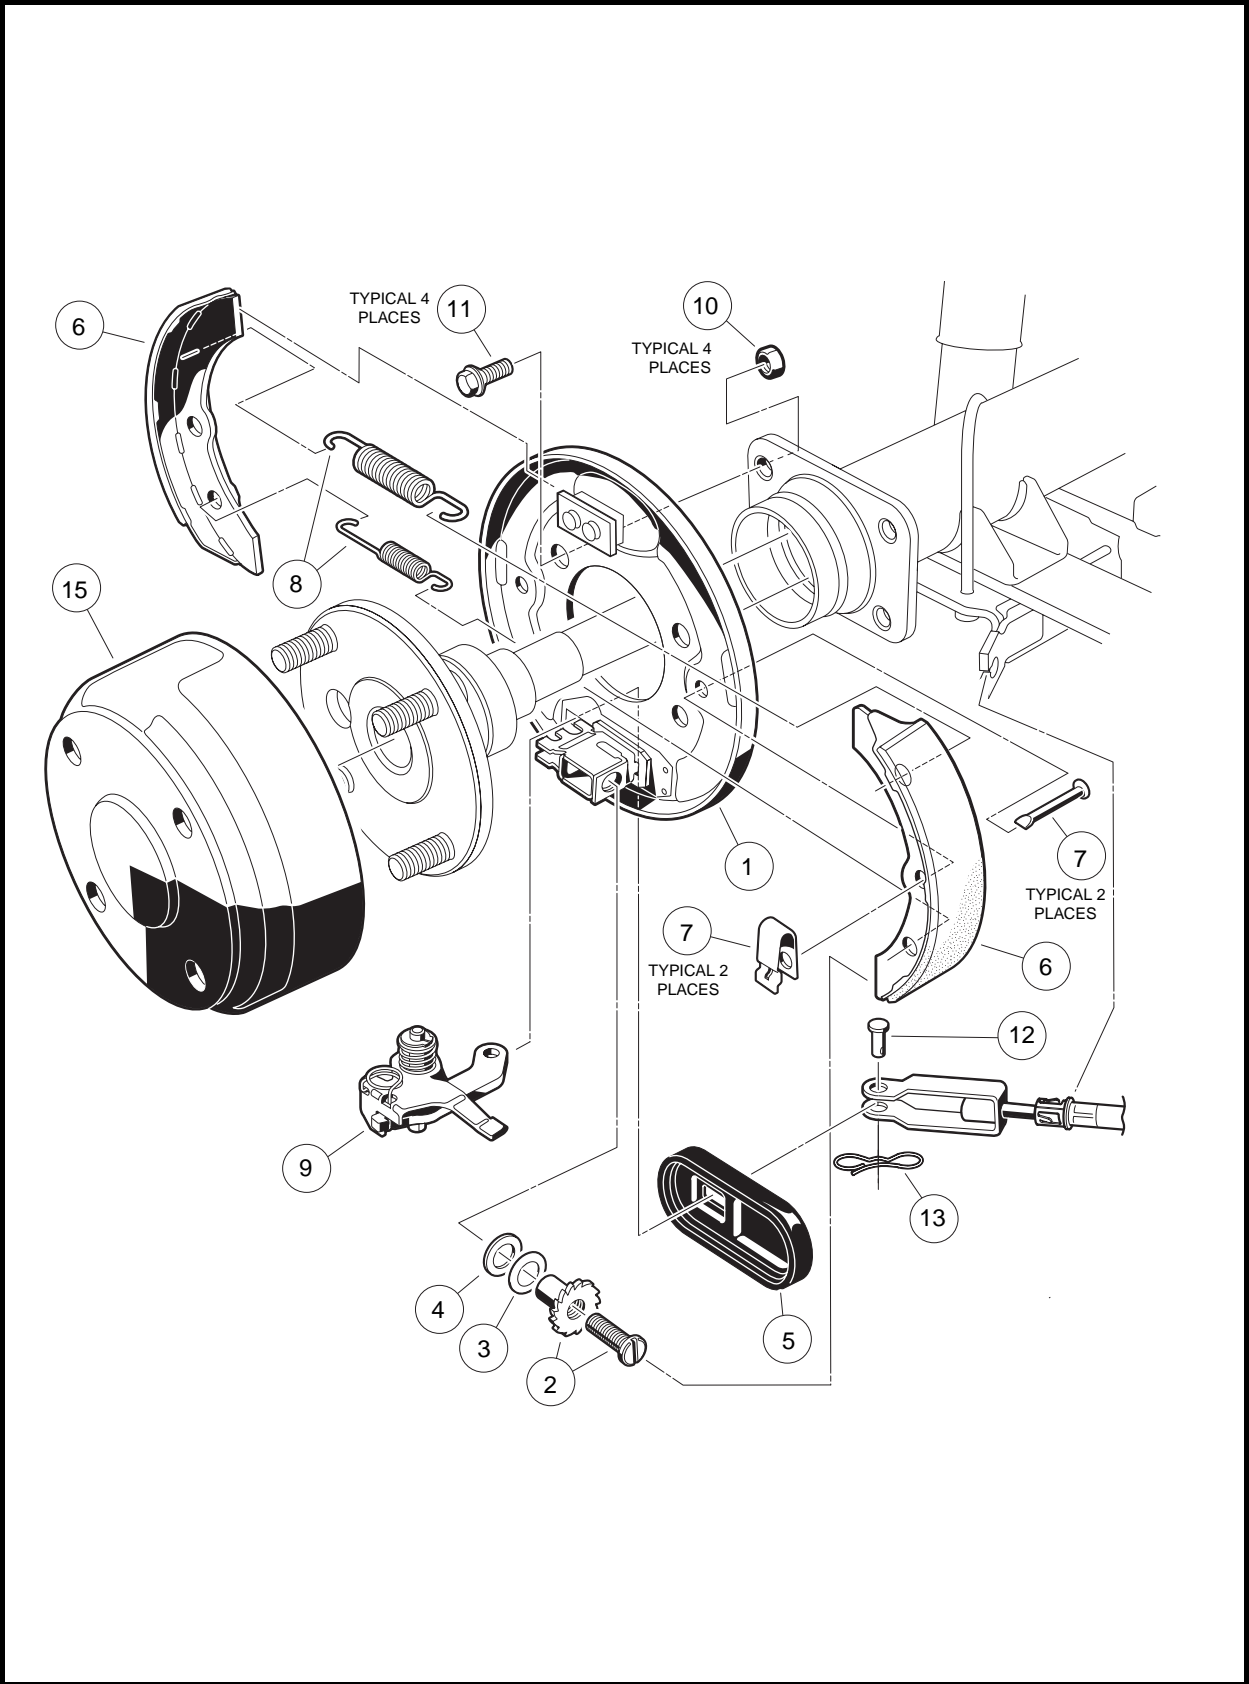

Figure 6-4 Self-adjusting Wheel Brake Assembly
8. Remove bow tie locking pin (13) and clevis pin (12) from brake cable (**Figure 6-4, Page 6-3**).
9. Remove four bolts (11) and lock nuts (10) that mount the brake assembly to the transaxle (**Figure 6-4, Page 6-3**).